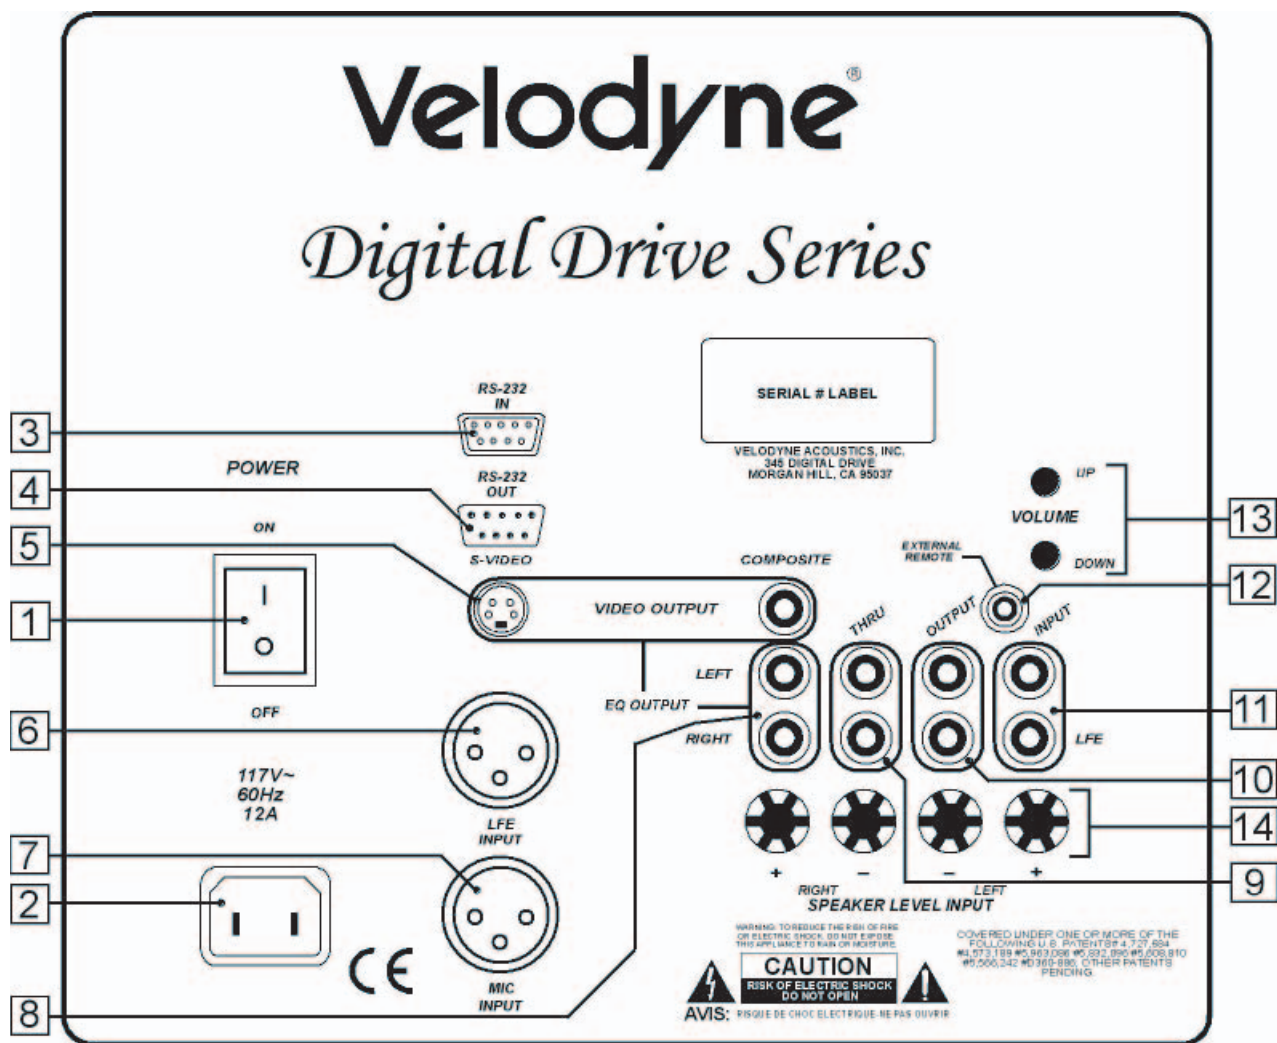

Figure 2: Digital Drive Rear Panel Connections
The Velodyne Digital Drive subwoofer is set up, configured, and adjusted by the controls, inputs, and connections located on the rear panel of the unit. Figure 2 shows the location of each of these important operational interfaces. Brief descriptions of each interface follow.
- a. LFE INPUT (RCA, the RED jack at location 11 on Figure 2) – This is the most common input cable connection. Make a connection between this input and the LFE output or the subwoofer output of your receiver or processor; OR
- b. LFE INPUT (XLR, location 6 on Figure 2) – Make a connection between this input and the balanced LFE outputs of your receiver or processor; OR
- c. INPUT, LEFT and RIGHT (location 11 on Figure 2) – Make a connection between these inputs and the stereo outputs of your receiver or processor; OR
- d. SPEAKER-LEVEL INPUT (location 14 on Figure 2) – Make a connection between these inputs and the left and right speaker connections on your receiver or processor. Make this connection by either inserting speaker wire into the correct binding post terminals or by removing the banana plug jack caps and inserting banana plug wire into the jacks.
4. Referring to Figure 2, Items 5 and 8, connect the audio/video cable between your subwoofer (EQ OUTPUT VIDEO/LEFT/RIGHT yellow, white, and red respectively) and your electronics (receiver, processor, TV, etc.). Insert the color-coded cable plugs into the correct EQ OUTPUT receptacle – the yellow plug into the VIDEO jack, the white plug into the LEFT jack, and the red plug into the RIGHT jack. The opposite ends of this cable should be connected to your receiver/processor. The yellow VIDEO cable goes to an available composite video input (e.g. aux), and the white/red AUDIO (L&R) cables go to a corresponding audio input. Consult your receiver/processor and/or TV owner's manual for more information.
5. Insert the XLR microphone cable's 3-pin male plug into the MIC INPUT jack (location 7 on Figure 2) on the back panel of the subwoofer. For DD-15 and DD-18 units, a microphone jack is also located on the front of the unit for convenience.